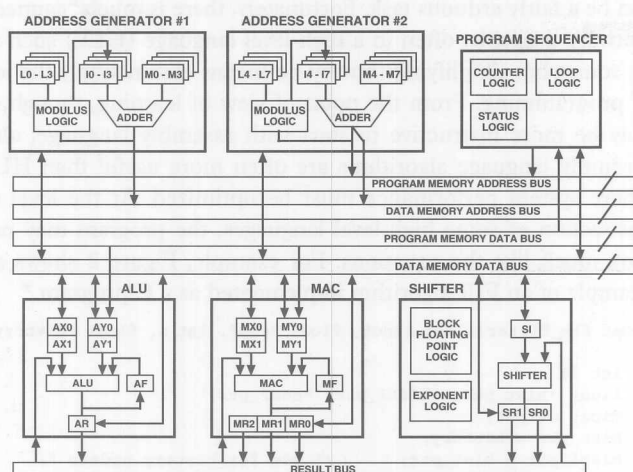

Figure 3. A useful DSP architecture.
**Relating The Models To DSP Architecture:** For programming, one must understand four sections of DSP architecture: numeric, memory, sequencer, and I/O operations. This architectural discussion is generic (applying to general DSP concepts), but it is also specific as it relates to programming examples later in this article. Figure 3 shows the generalized DSP architecture that this section describes.
logical operations. Operations on bits and words occur within the shifter. Figure 3 shows the parallelism of the MAC, ALU, and shifter and how data can flow into and out of them.